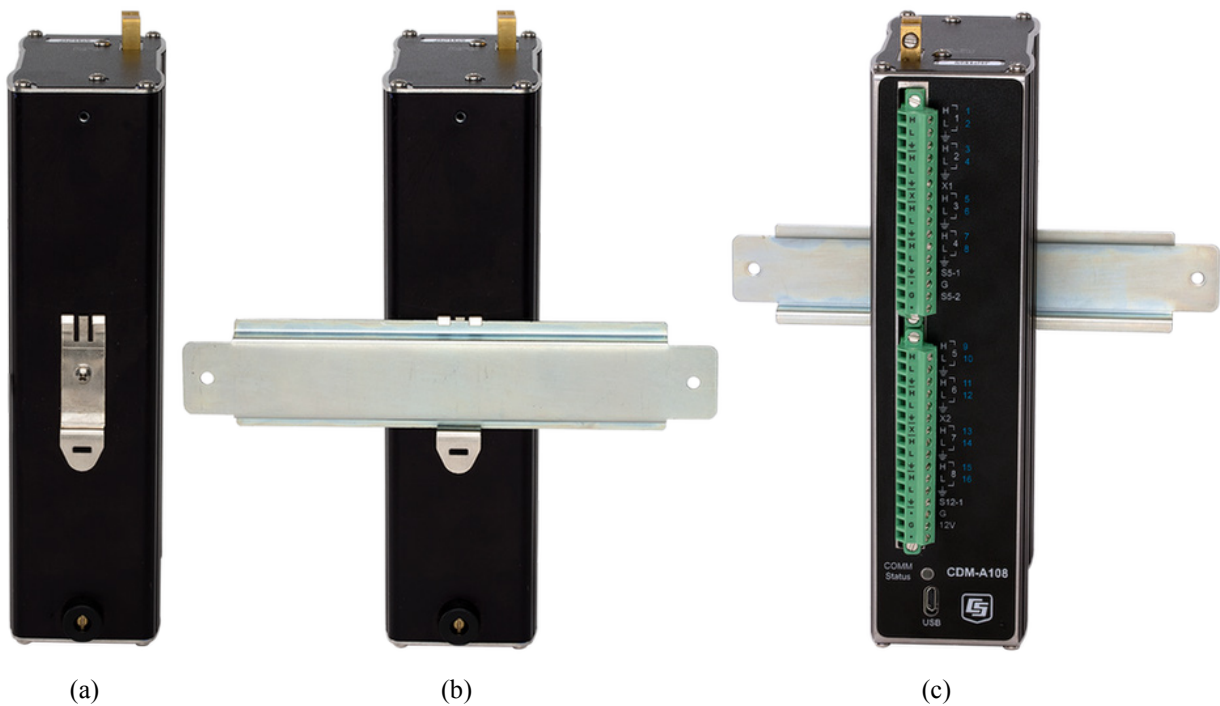

FIGURE 7-5. Mounting the CDM-A108 to a DIN rail
3. Use the screw from the kit to attach the metal clip to the middle hole, with the comb pointing up as shown in FIGURE 7-5 \(a\).
4. Clip the CDM-A100 to a DIN rail. See FIGURE 7-5 \(b\) and (c).